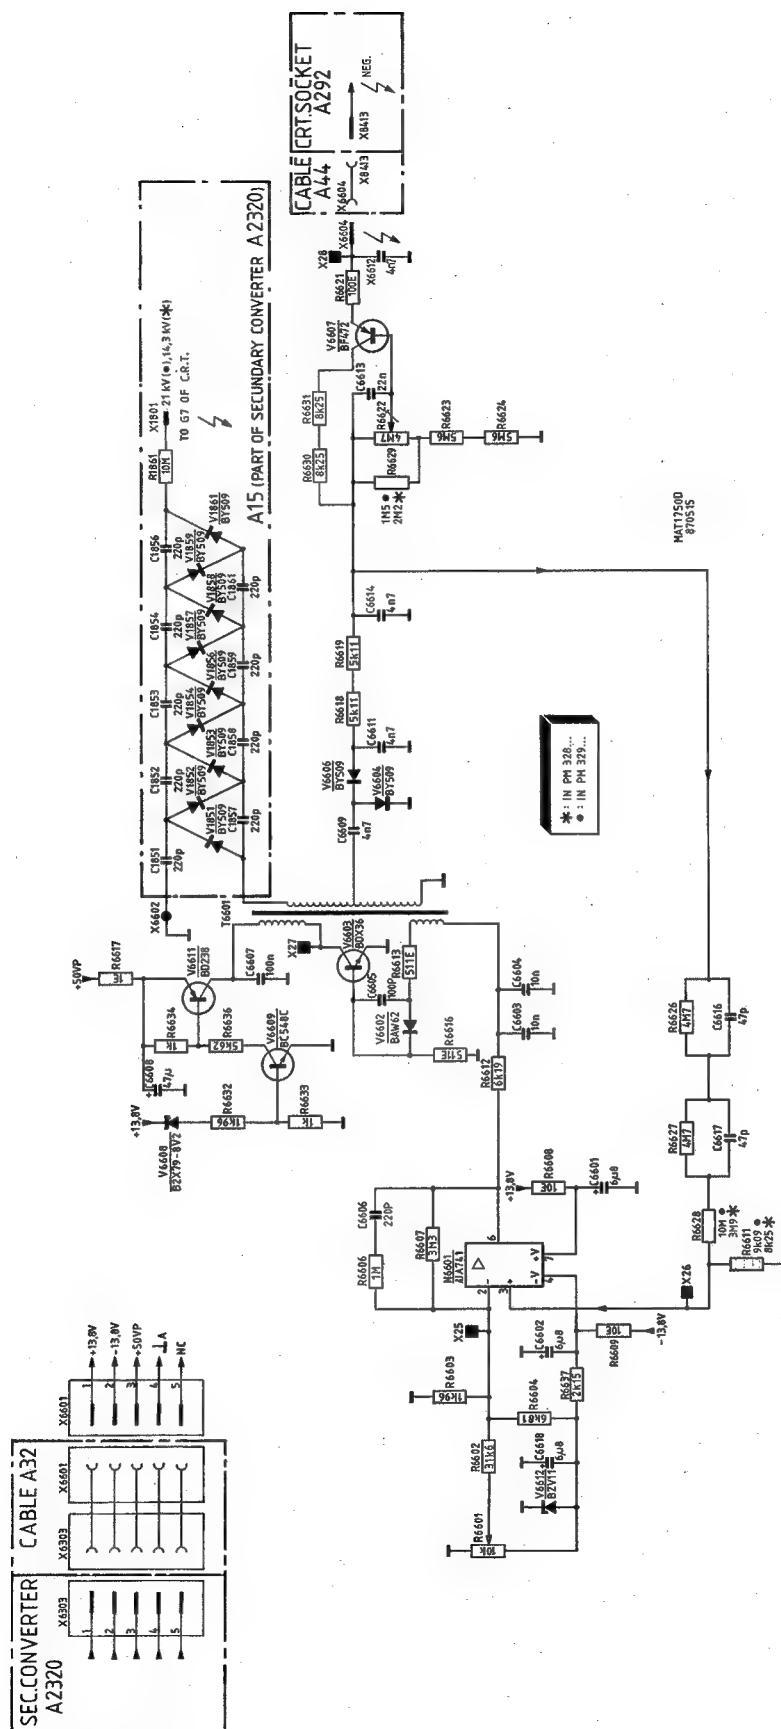

Fig.20.3. High-voltage converter, circuit diagram.
20. CIRCUIT DESCRIPTION OF HIGH VOLTAGE CONVERTER UNIT (See fig.20.3).